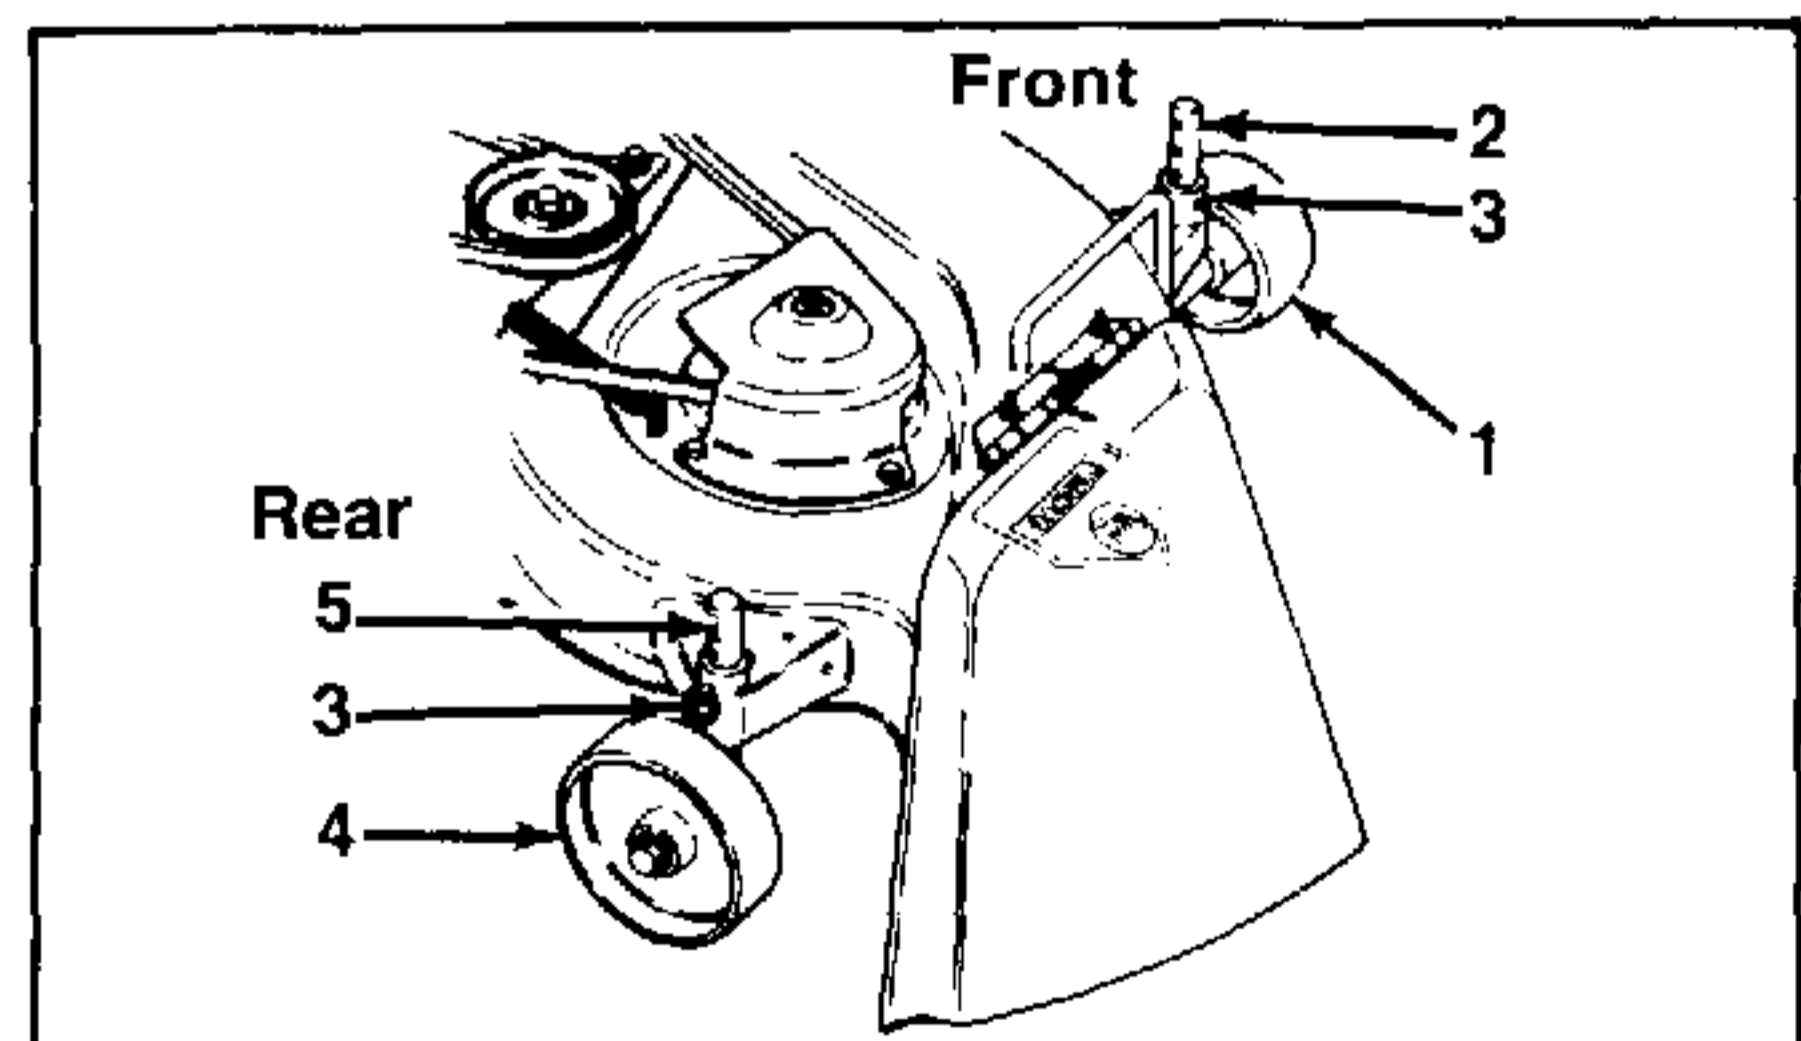

FIGURE 6.
3. In order to facilitate sliding the deck under the tractor, the ball wheels and gauge wheels must first be turned inward 90 degrees and set in the lowest position. Refer to figure 6 and position each wheel as shown, by first retracting the quick release pin. Resecure each wheel with a quick release pin.